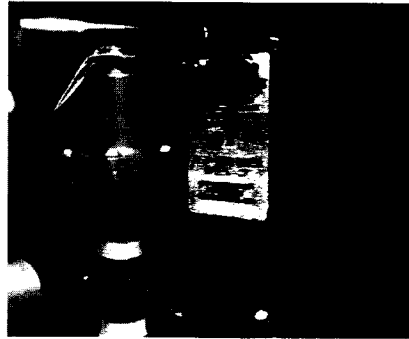

Figure 2 – Attaching the Relay
2. Use the (2) supplied self-tapping screws to mount the Low Water Cut-Off Relay to the left side of the boiler, near both the Low Water Cut-Off probe, which is on the outlet nipple of the boiler, and the knockout holes in the boiler cabinet. See Figure 2.